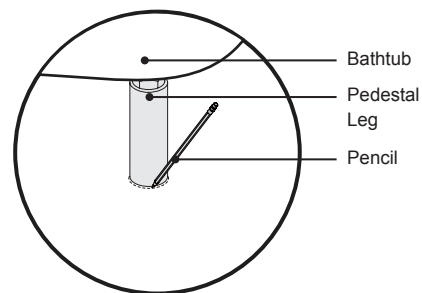

Figure 28. Pedestal Leg Attachment
- 1 Remove the pedestal base. Place the bathtub back in the determined location. Make sure the overflow opening on the bathtub is centered on the drain (Figure 28).
- 2 Using a pencil, lightly outline the pedestal leg. Repeat this step for the remaining three (3) pedestal legs.